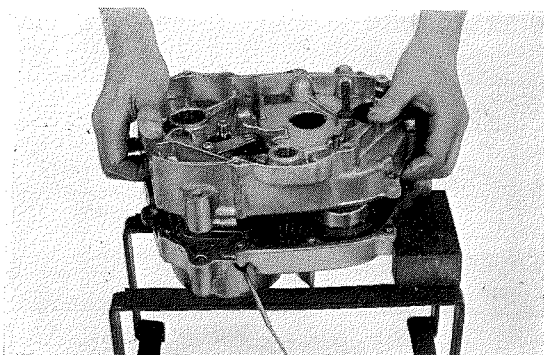

Fig. 50 R. crankcase cover removal
5. Unscrew four 4 mm screws and three 6 mm screws to separate the right crankcase cover. (Fig. 50)